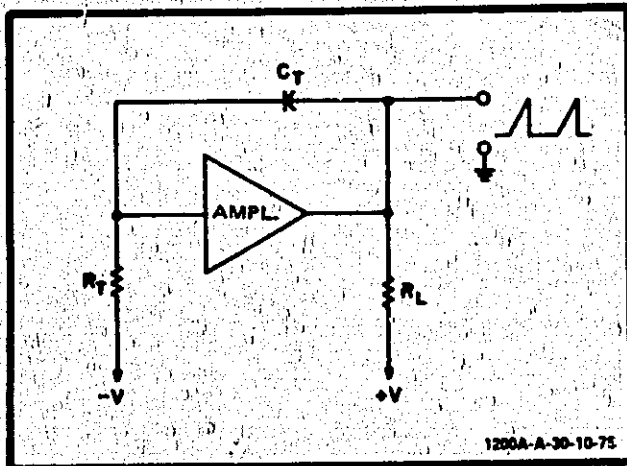

Figure 4-12. Basic Integrator Circuit.
**4-86. INTEGRATOR.** Figure 4-12, Integrator block diagram, shows the electrical equivalent of the Integrator and Time/Division switch portions of the Sweep Generator schematic. In order for a linear ramp to be generated, the Integrator input must draw little or no current. This is accomplished by the use of Source Follower, Q16. The